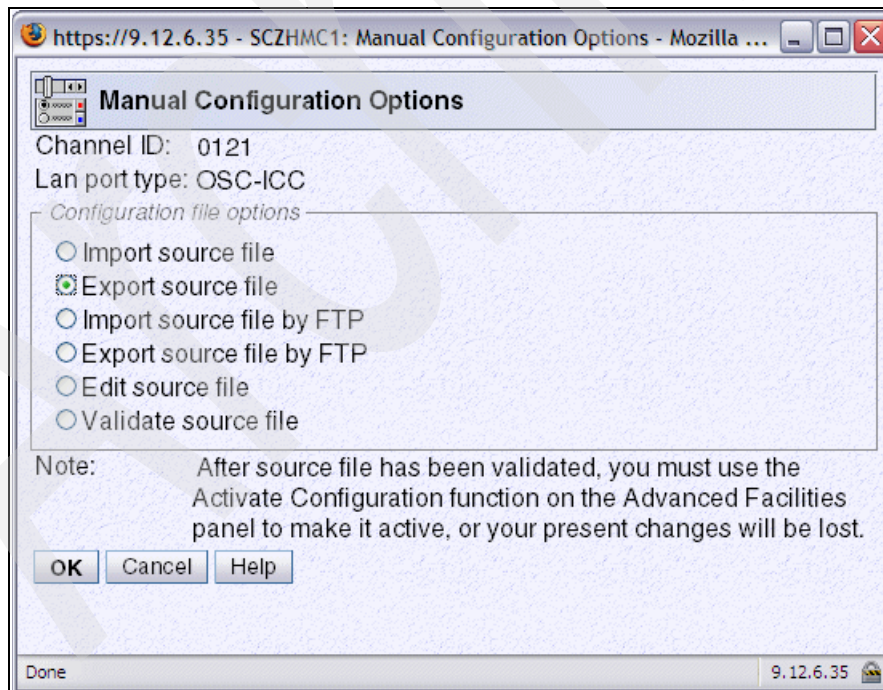

Figure 4-30 HMC - OSA Advanced Facilities (Export source)
7. Select the radio button **Export source file**, then click **OK** (Figure 4-30).